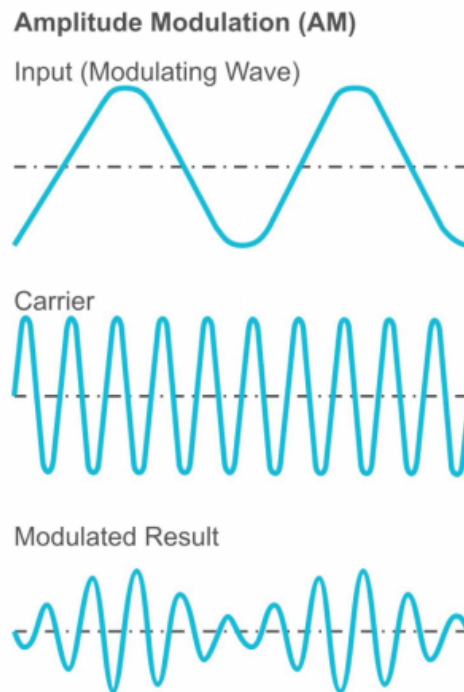

Figure 5: Resultant amplitude modulation given a carrier signal and input signal.
A deflector simply deflects the beam into 1st orders in accordance to Bragg Angles, whilst a modulator is able to modulate using **amplitude modulation (AM)** - see [Fig 5], similar to that used in radio waves.